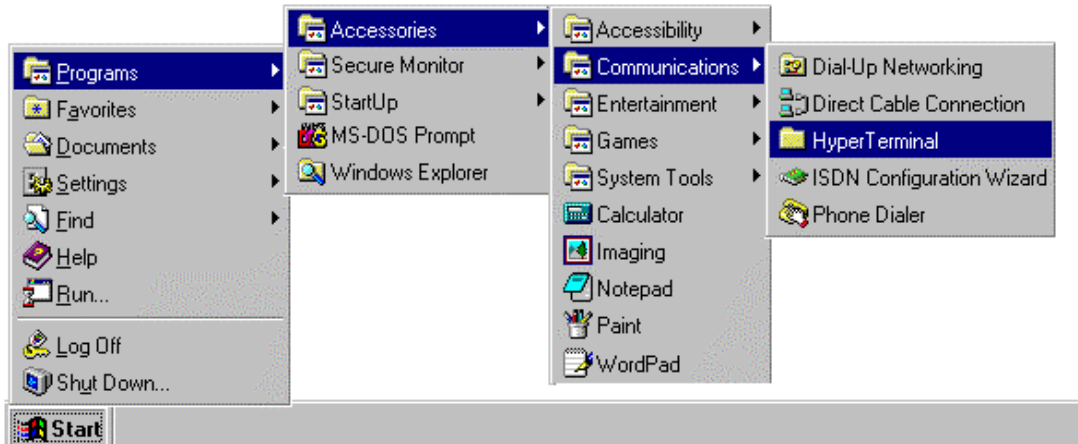

Figure 12 Accessing HyperTerminal from the Start Menu
Step 1: On the computer's desktop, click the **Start** button. The Start menu will appear (Figure 12).